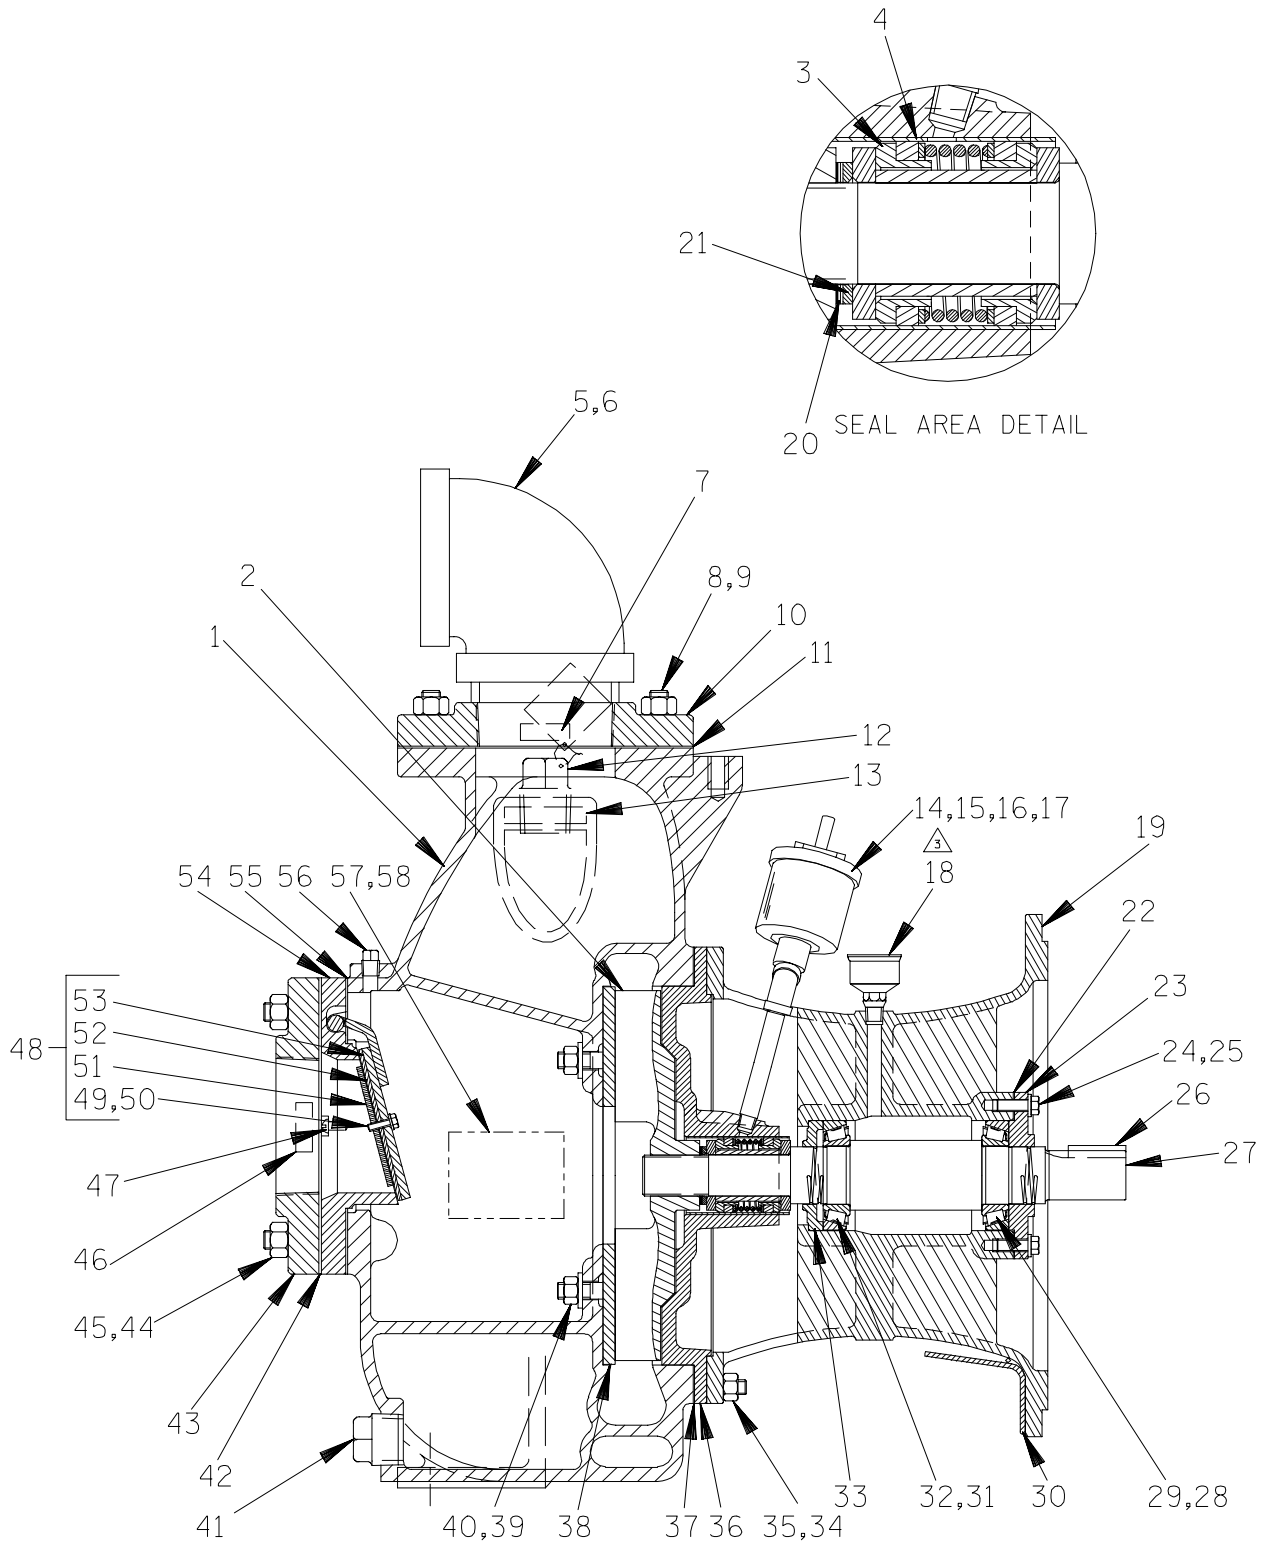

Figure 3. 84A2-(SAE 4/10) Pump End Assembly
(Figure 3)
Support the intermediate using a hoist and sling, and remove the hardware (6 and 7) securing the intermediate (19, Figure 3) to the engine bellhousing. Remove the intermediate guards (30, Figure 3), and separate the assemblies by pulling the intermediate straight away from the engine.
two allen head setscrews from the bushing (2). Screw one of the setscrews into the puller hole on the circumference of the bushing. As the coupling and bushing separate, remove the bushing, and slide the coupling off the shaft. Remove the shaft key (26, Figure 3).